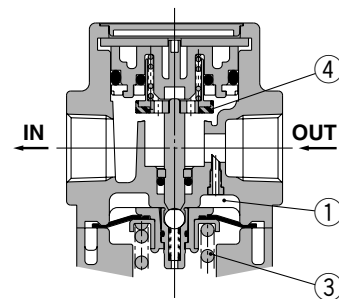

Figure 2 Backflow
When the inlet pressure is higher than the regulating pressure, the check valve ② closes and operates as a normal regulator (Figure 1). When the inlet pressure is shut off and released, the check valve ② opens and the pressure in the diaphragm chamber ① is released into the inlet side (Figure 2).
This lowers the pressure in the diaphragm chamber ① and the force generated by the pressure regulator spring ③ lifts the diaphragm. Valve ④ opens through the stem, and the outlet pressure is released to the inlet side (Figure 2).